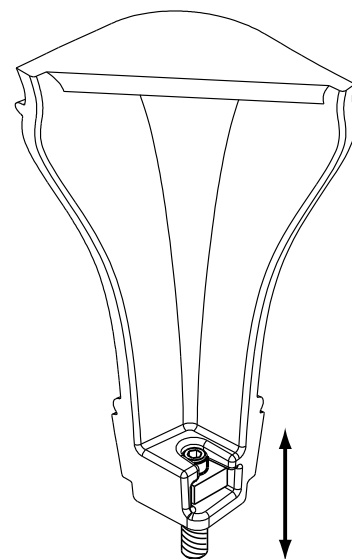

Figure 25.5
10. Use Allen wrench to adjust legs up and down to desired level (**Figure 25.5**).